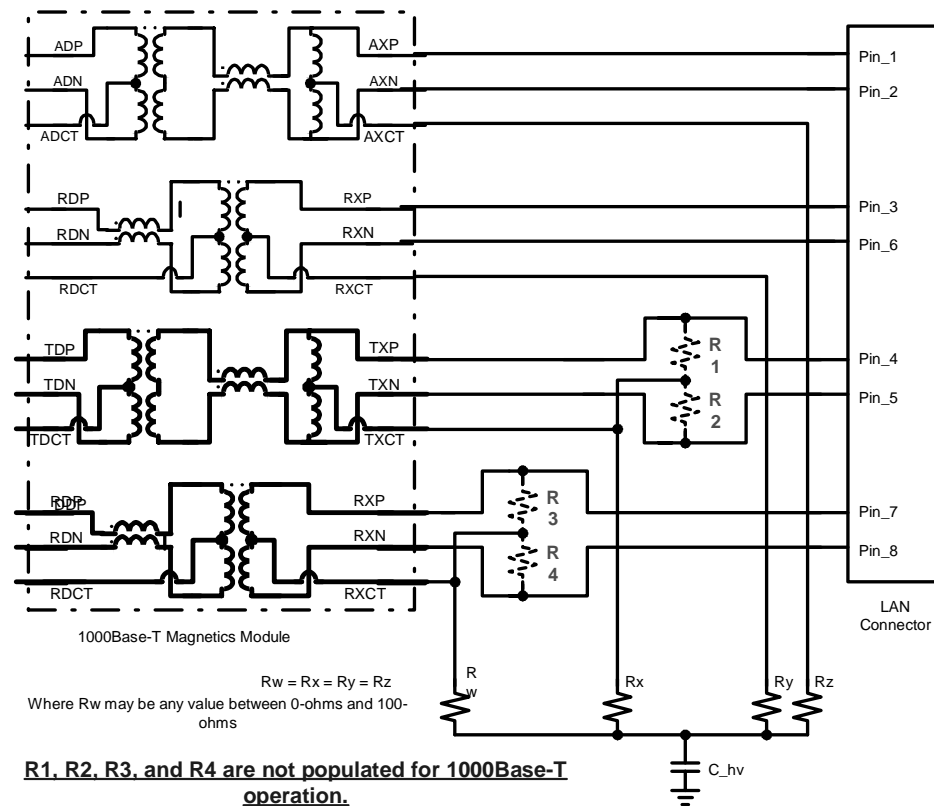

Figure 7. Typical magnetic for Gb LAN Controller with Optional Resistors Footprint
1. Layout resistor footprints on the pairs 3 and 4 of the differential traces for 82540EM LOM design. Refer to Figure 7